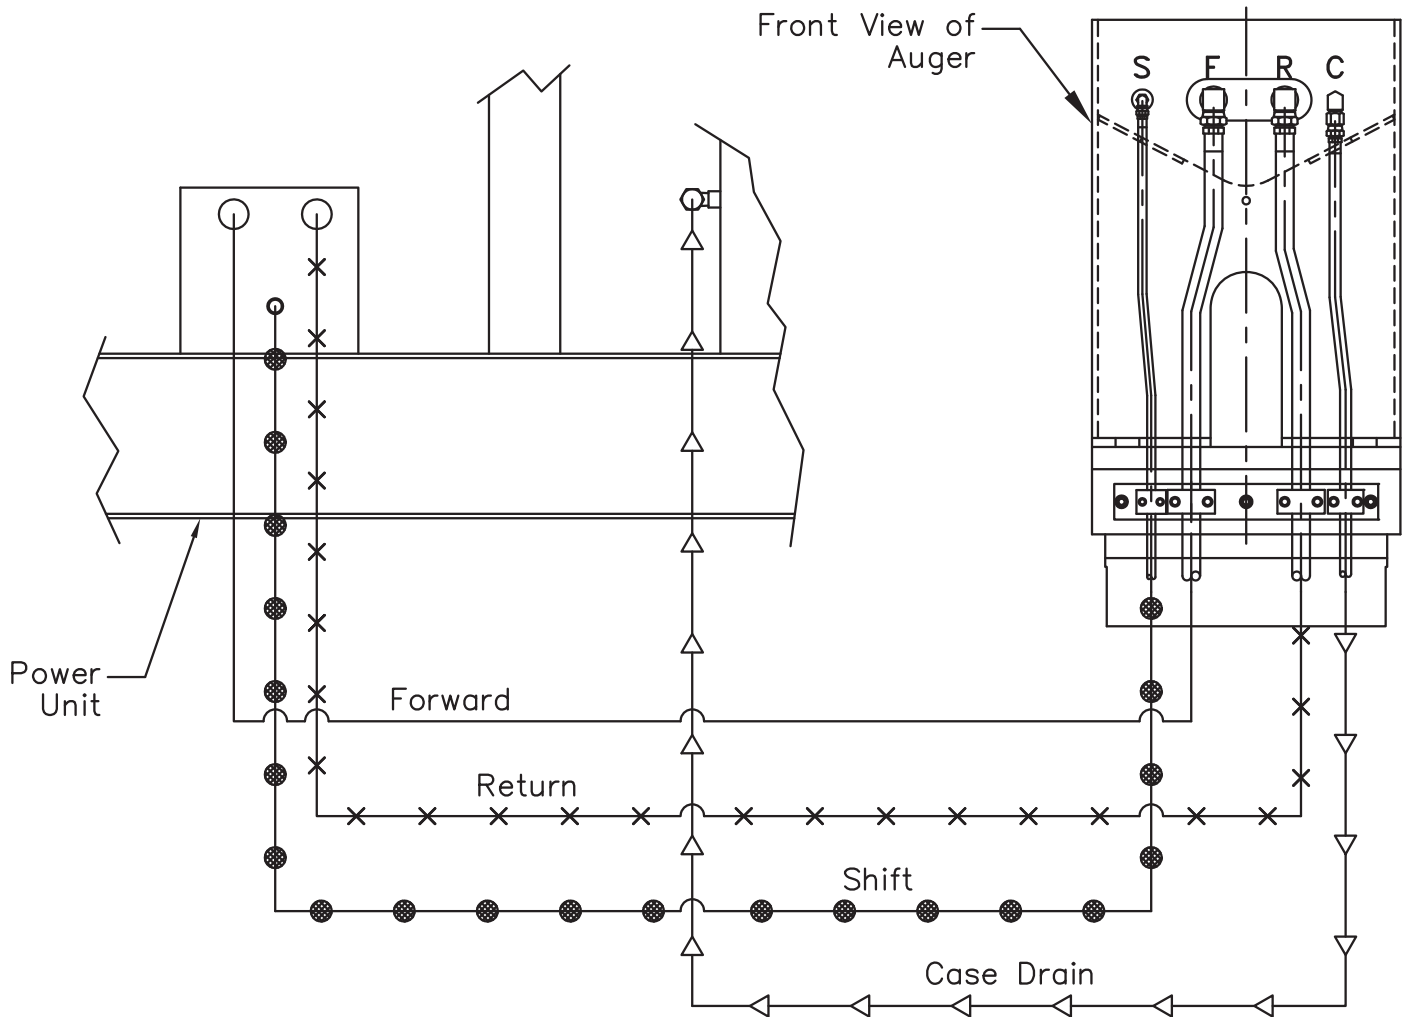

Fig 1
a. The auger is connected to the power unit by four hydraulic hoses (Fig. 1) on the previous page.
b. The hoses connect to the power unit with quick-disconnect couplers. Hose couplers are arranged to insure correct connections at the power unit. See the diagram (Fig. 1) for correct hose connection.
a. The auger is usually shipped with the hoses attached to the auger. If the hoses have been shipped separately, they must be connected in the field. Fig. 1 shows the correct arrangement of the four hoses connecting the power unit to the auger.